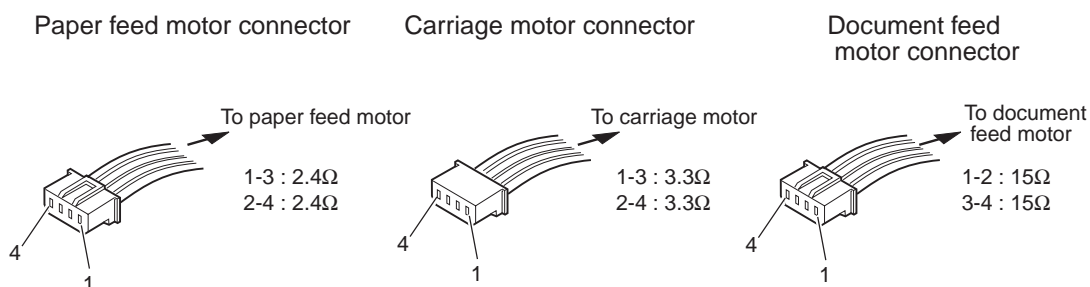

Figure 3-11 Paper Feed Motor/Carriage Motor/Document Feed Motor Connector
- (1) Check the connection from the paper feed motor to the PCNT board (J202).
- (2) Check the paper feed motor's resistance. $2.4\ \Omega$ /1 phase is normal. (Fig. 3-11)
- (3) Replace the paper feed motor.
- (4) Replace the PCNT board.
- (1) Check the connection from the carriage motor to the PCNT board (J203).
- (2) Check the carriage motor's resistance. $3.3\ \Omega$ /1 phase is normal. (Fig. 3-11)
- (3) Replace the carriage motor.
- (1) Check the connection from the document feed motor to the SCNT board (JMOTOR1).
- (2) Check the document feed motor's resistance. 15 Ω /1 phase is normal. (*Fig. 3-11*)
- (3) Replace the document feed motor.
- (4) Replace the SCNT board.